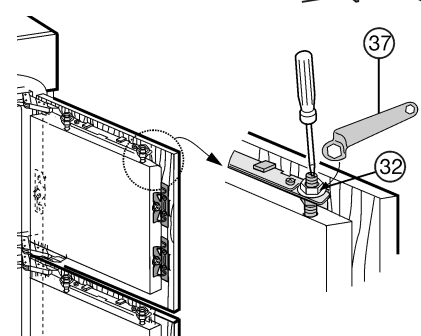

Fig. 23
- ▶ Tighten the locknuts *Fig. 23 (32)* using the ring spanner *Fig. 23 (37)*, while holding fast the adjusting bolts *Fig. 23 (33)* with a screwdriver.